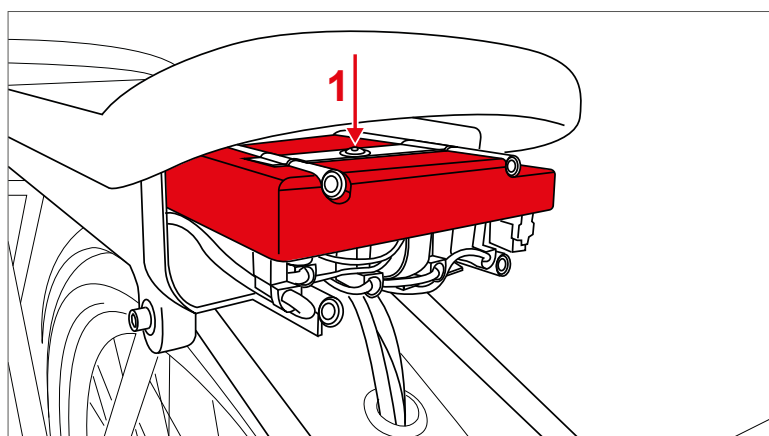

Figure 4.31 Control unit assembly
2. Mount the control unit using the bracket and M4 x 10 fastener [1] to the top posts of the docking station (Fig. 4.31).